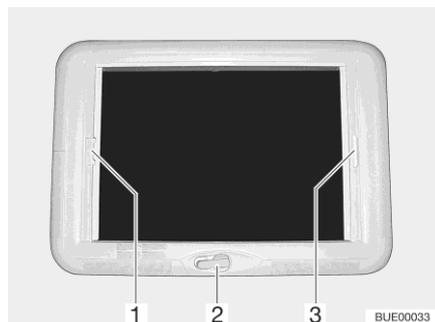

Fig. 84 Wind-up skylight
- Rotate the hand crank (Fig. 84,2) until a resistance can be felt.
- Pull the handle of the Roman shade (Fig. 84,3) and release in the desired position. The Roman shade will stay in that position.
- Pull insect screen at the handle (Fig. 84,1) to the opposite handle of the Roman shade (Fig. 84,3) and allow to engage.
- Press the handle of the insect screen (Fig. 84,1) at the back upwards and detach the insect screen from the Roman shade (Fig. 84,3).